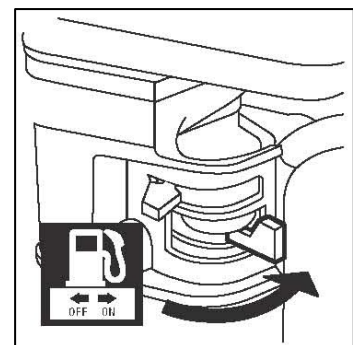

Figure 6
6. Move the choke lever to the “CHOKE” position (see figure 6).
10. If engine fails to start, repeat step 9. **NOTE:** After repeated failed attempts to start the engine, please consult the troubleshooting guide before attempting again. If problems persist please call **(800) 232-1195 M-F 8-5 CST**.